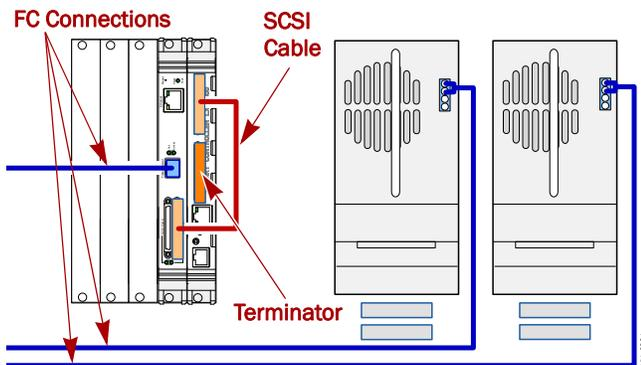

Figure 3. Cabling When FCO3 Controls Only the Library
3. If the FCO3 card controls only the **library** (Figure 3), connect a **terminator** to Port 2, and go to Step 7.